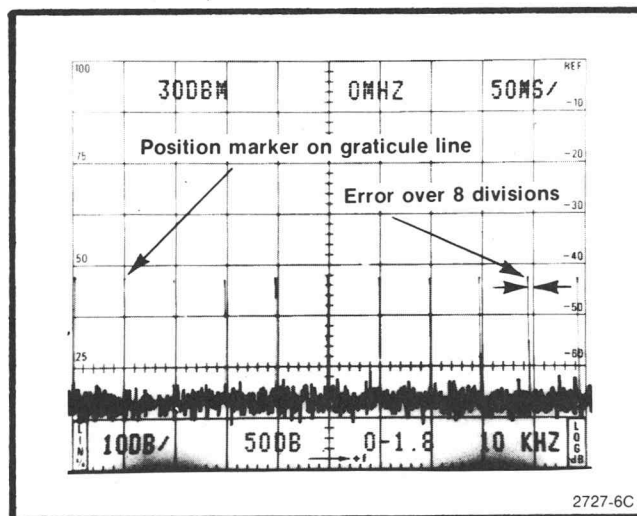

Fig. 3-9. Display to illustrate how timing accuracy is checked.
c. Apply 50 ms time markers. Tune the FREQUENCY toward 0 Hz as the FREQ SPAN/DIV is reduced to zero, so time markers are displayed on the time domain display (see Fig. 3-9). Adjust FREQUENCY if necessary.